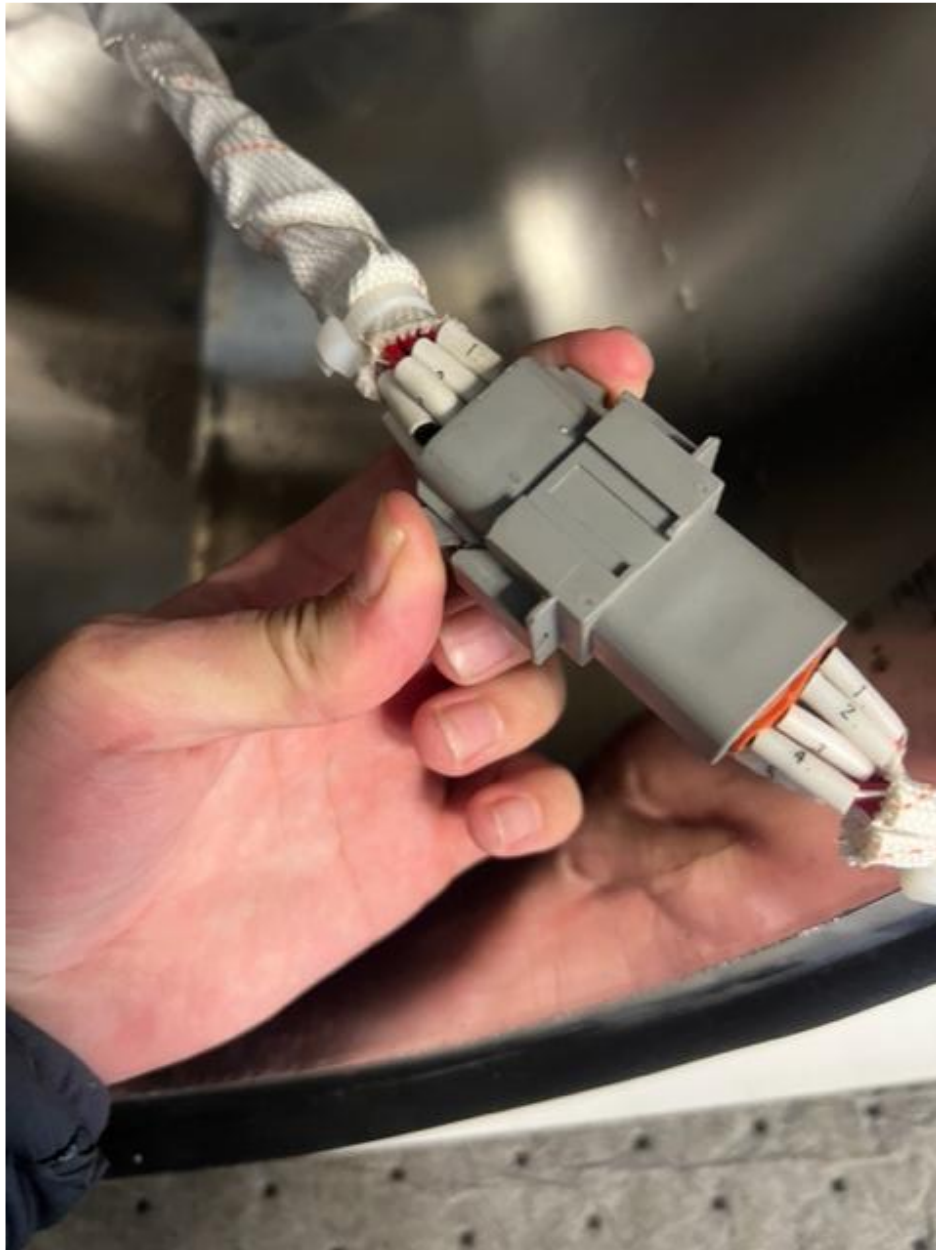

Figure 42
- Locate the plug assembly and press the release tabs to unplug the shelf stack from the freeze dryer. (See Figure 42)